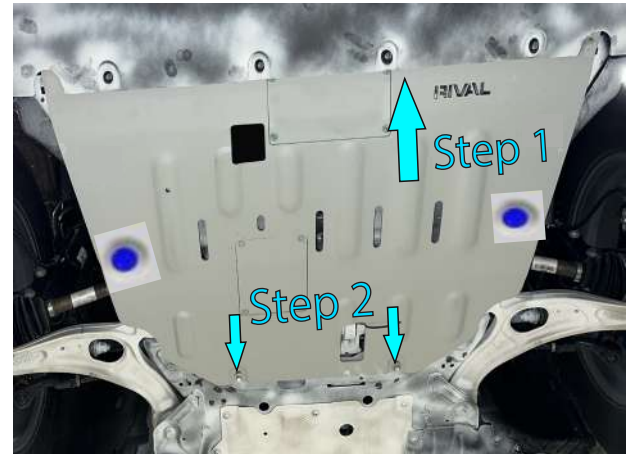

Fig. 2
Step 1: Slide front of the skid plate over and into the plastic bumper as shown in fig.2.
Step 2: Slide the skid plate back and over the previously installed bolts as shown in fig.2.